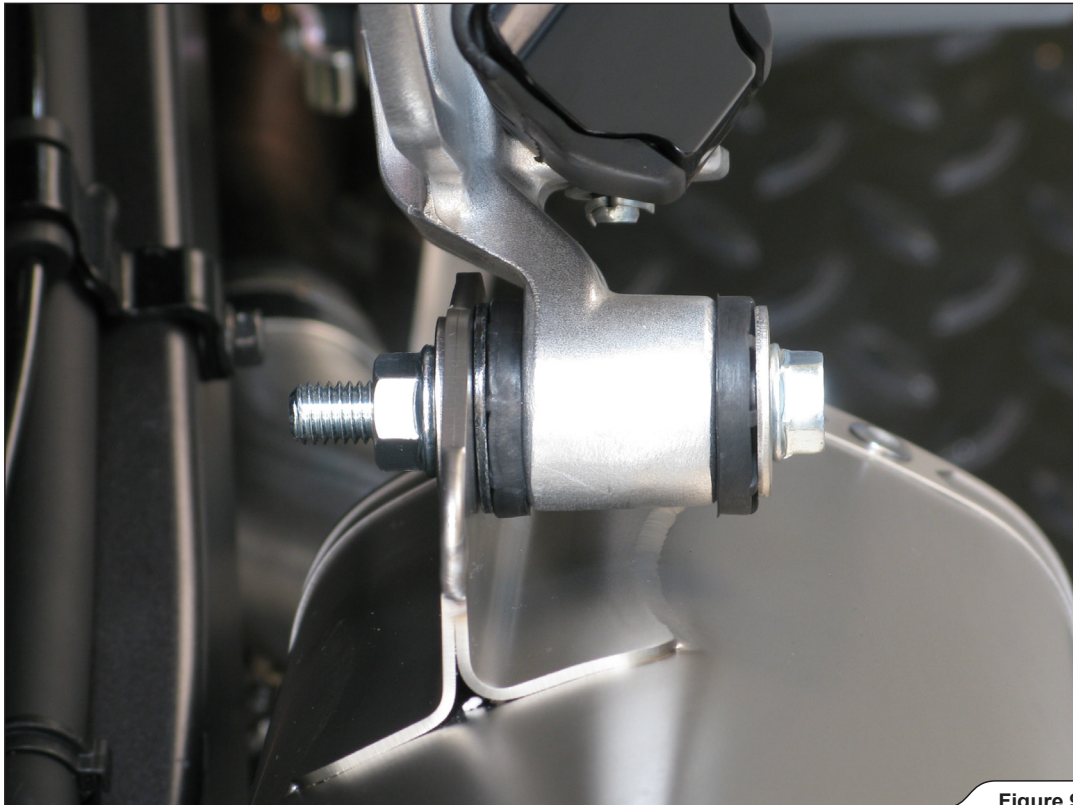

Figure 9
7. **For stainless steel muffler only:** correctly assemble and hand tighten muffler onto the bracket (using bolt, washers, and nut from Akrapović installation kit) (**Figure 9**).